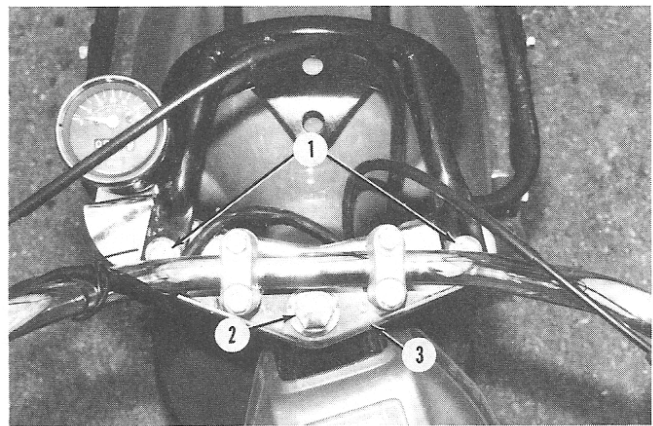
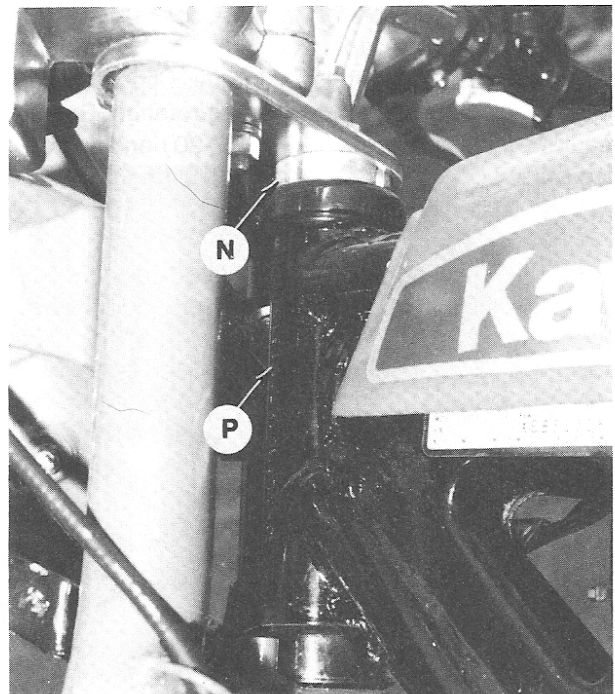

Fig. K7-20—Fork cap screws (1) and bracket nut (2) retain steering bracket (3).
Fig. K7-21—Stem nut (N) controls steering bearing preload. Inner-bearing races seat in head pipe (P).
INSPECTION AND ADJUSTMENT. The steering should be inspected and adjusted after the first 10 hours or 100 miles of operation and every 90 days or 900 miles of operation thereafter. To adjust steering, remove fork cap screws (1—Fig. K7-20) and bracket nut (2). Remove steering bracket (3) with handlebars and position out of way. Unless complete removal of handlebars is required, do not detach control cables or levers. Loosen steering stem nut (N—Fig. K7-21) approximately 2 turns then tighten nut to 20 N·m (14.5 ft.-lbs.) torque. Check for play in steering head and for binding during rotation. Readjust if required. Install bracket (3—Fig. K7-20) and tighten fork cap screws (1) to 30 N·m (22 ft.-lbs.) and bracket nut (2) to 55 N·m (39 ft.-lbs.) torque.
R&R AND OVERHAUL. To remove steering stem and fork assembly, first remove front wheel and axle assembly as outlined in FRONT AXLE section. If the fork and stem unit is damaged and is being removed for renewal or repair, remove suspension components as outlined in FRONT SUSPENSION section. Remove steering bracket as previously described in INSPECTION AND ADJUSTMENT section. Remove the front fender and headlight. Carefully pull wiring from headlight housing and remove housing and housing mounting brackets. Using a suitable pin spanner wrench, unscrew stem nut (N—Fig. K7-21). Remove dust cover and top outer bearing race. Lower steering stem and fork assembly from frame being careful not to lose bearing balls.